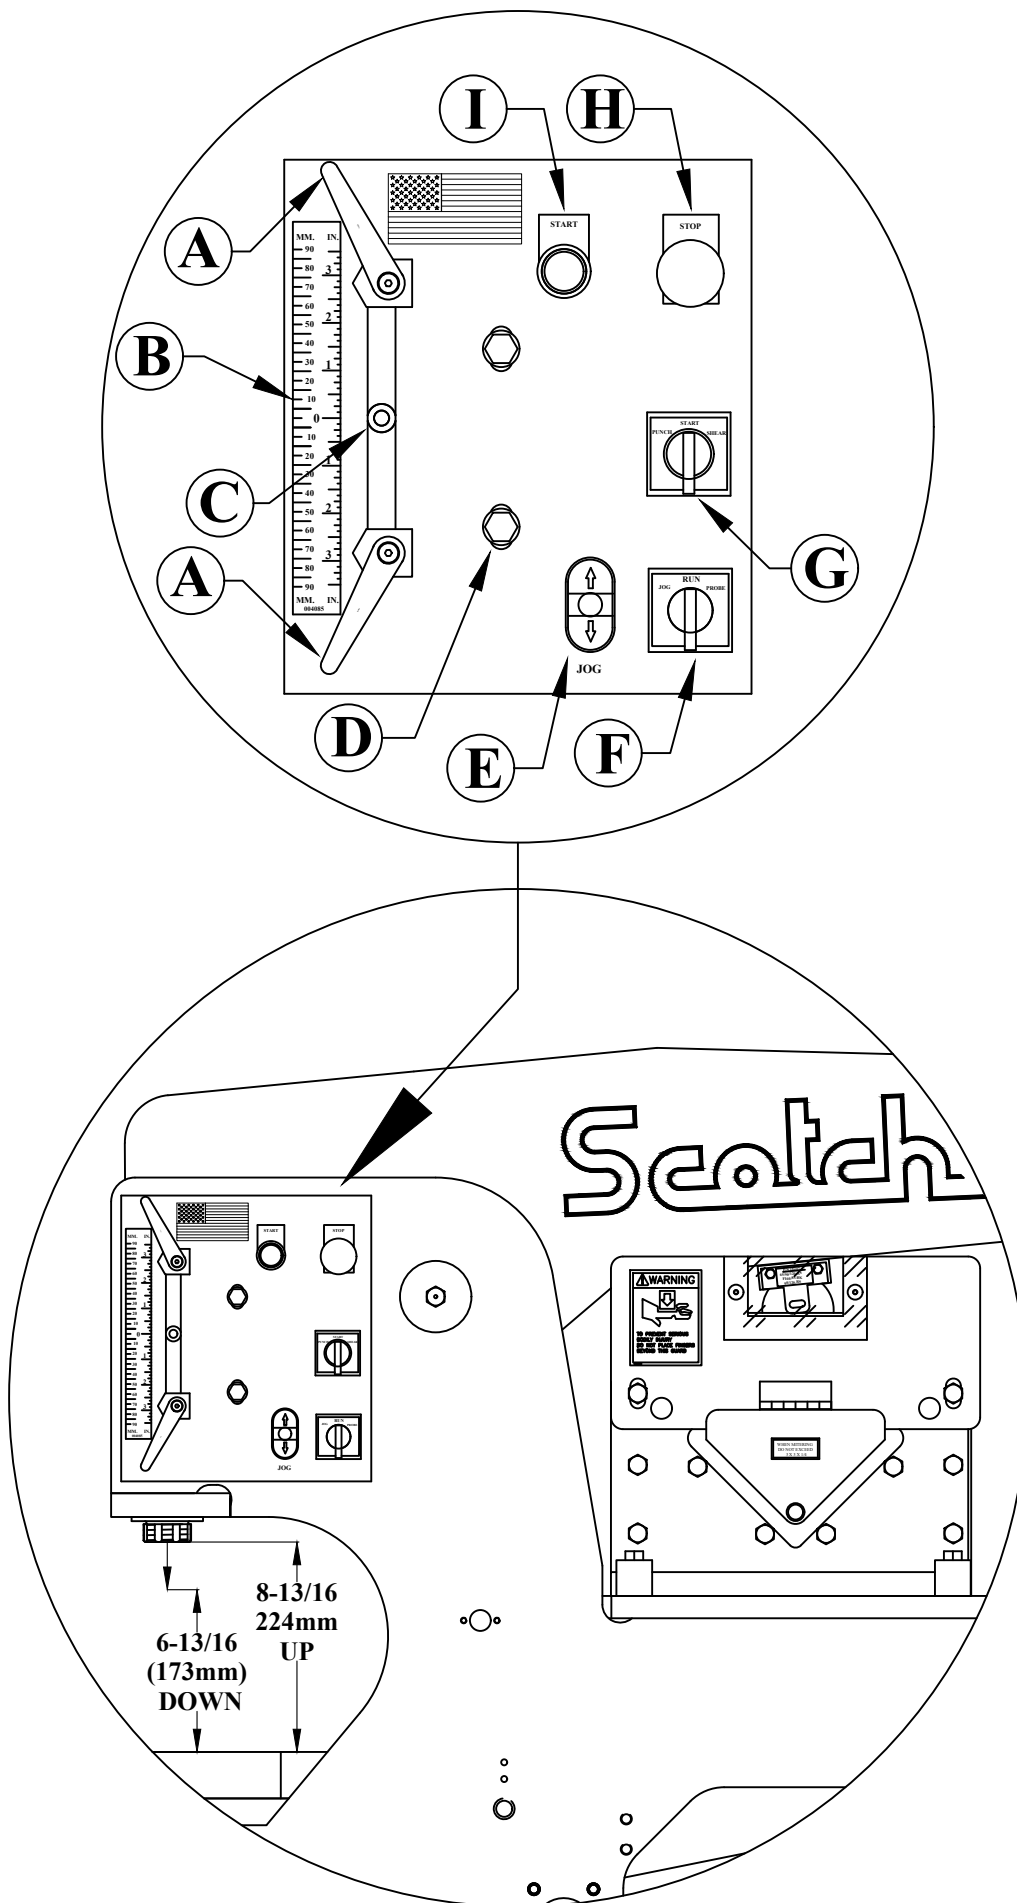

FIGURE 5
A check of the machine's stroke setting is made at the punch station; SEE FIGURE 5 ON THE FOLLOWING PAGE. Set the stroke control handles (A) out to their farthest position. Turn the selector switch (G) to the START position and power the machine. Then place this switch in the SHEAR position. Measure the distance from the top of the punch bolster to the bottom of the punch ram. The distance should be 8-13/16 inches (224mm). Turn the selector switch to the PUNCH position and measure the distance. The distance should be 6-13/16 inches (173mm).
1. Loosen the two mounting plate screws (D) that hold the mounting plate to the machine. SEE FIGURE 5 ON THE FOLLOWING PAGE.